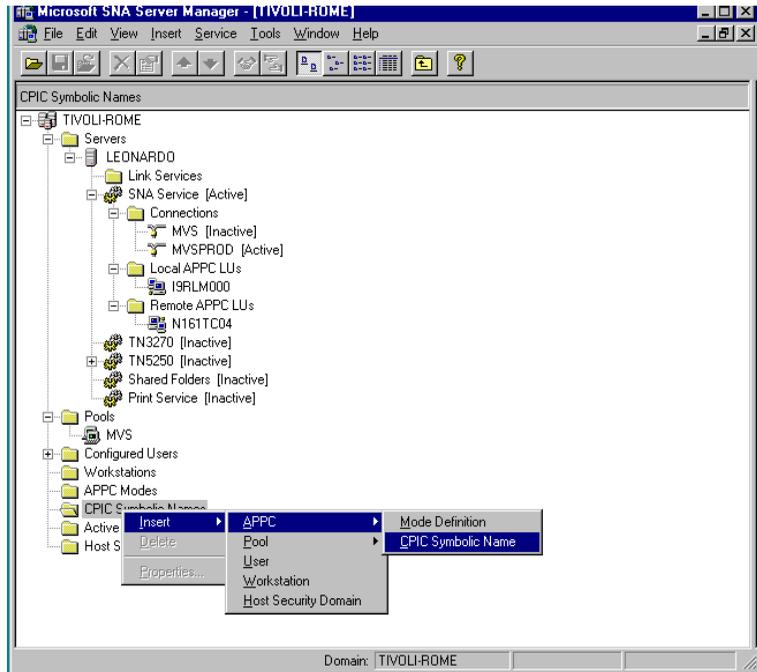

Figure 59. Selecting a CPIC symbolic name
- 1 From the Microsoft SNA Server Manager window, select **CPIC Symbolic Names** ► **Insert** ► **APPC** ► **CPIC Symbolic Name**, as shown in Figure 59.